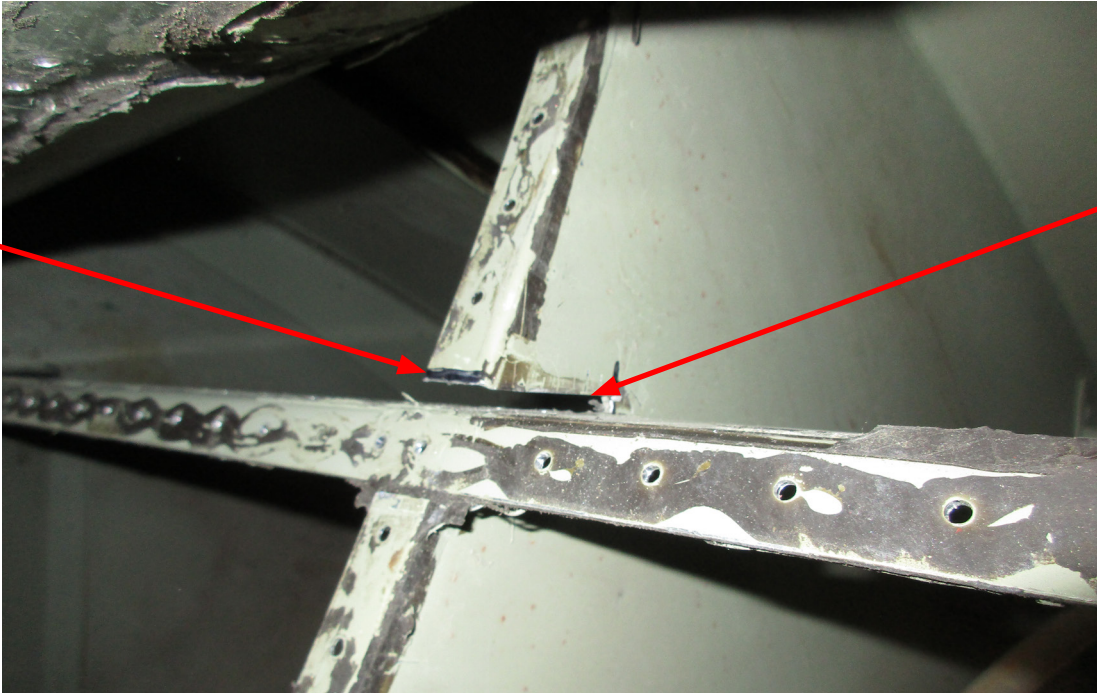

Figure 7
12. Bulkhead #12 needs to be notched before removing the carry thru strap (see Figure 7).